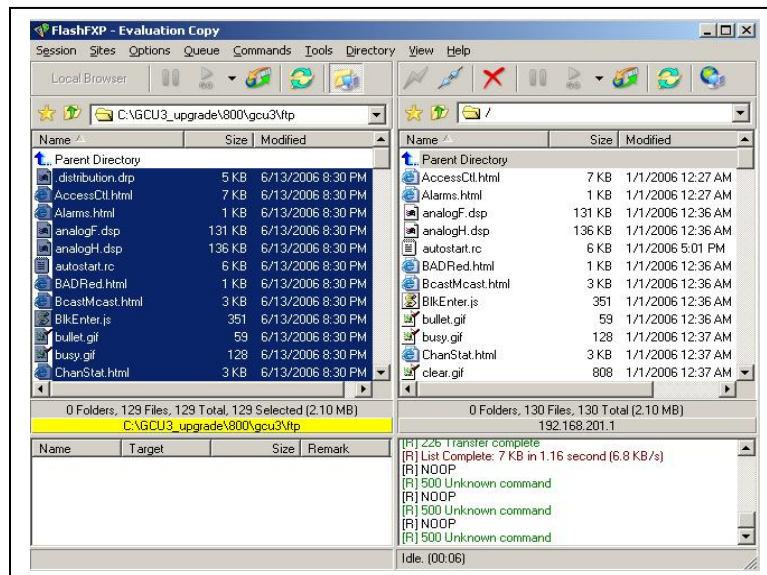

Figure 87 - Sample FTP program
2. Using an FTP program of your choice (Figure 87), establish a connection to the unit IP address. Please refer to paragraph 6.7.4.1 for "Username" and "Password" usage.